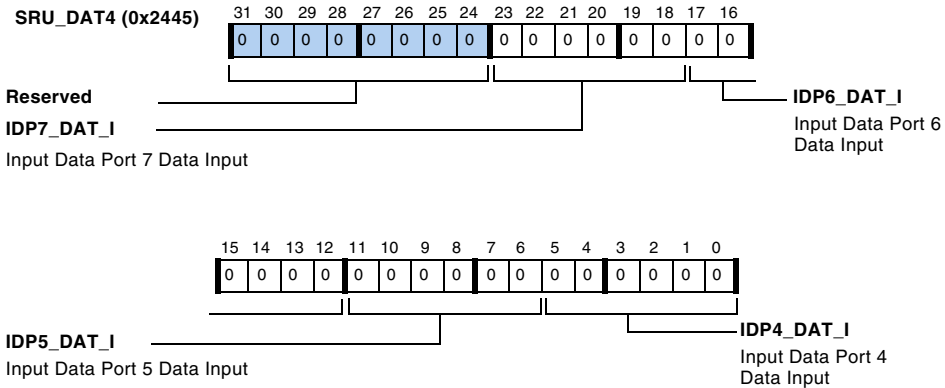

Figure A-42. SRU\_DAT4 Register
- `SRU_DAT4`, described in Figure A-42